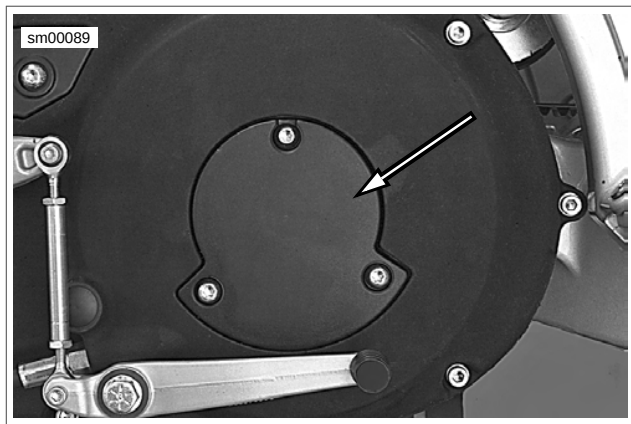

Figure 1-25. Clutch Inspection Cover (Typical)
5. See Figure 1-25. Remove three fasteners and washers from clutch inspection cover. Remove clutch inspection cover with gasket from primary cover.
9. See Figure 1-25. Install clutch inspection cover tightening three fasteners and washers to 84-108 **in-lbs** (10-12 Nm).
3. See Figure 1-25. Remove three fasteners and washers from clutch inspection cover. Remove clutch inspection cover and gasket from primary cover.
8. See Figure 1-25. Install clutch inspection cover and **new** gasket using three fasteners and washers and tighten to 84-108 in-lbs (10-12 Nm).